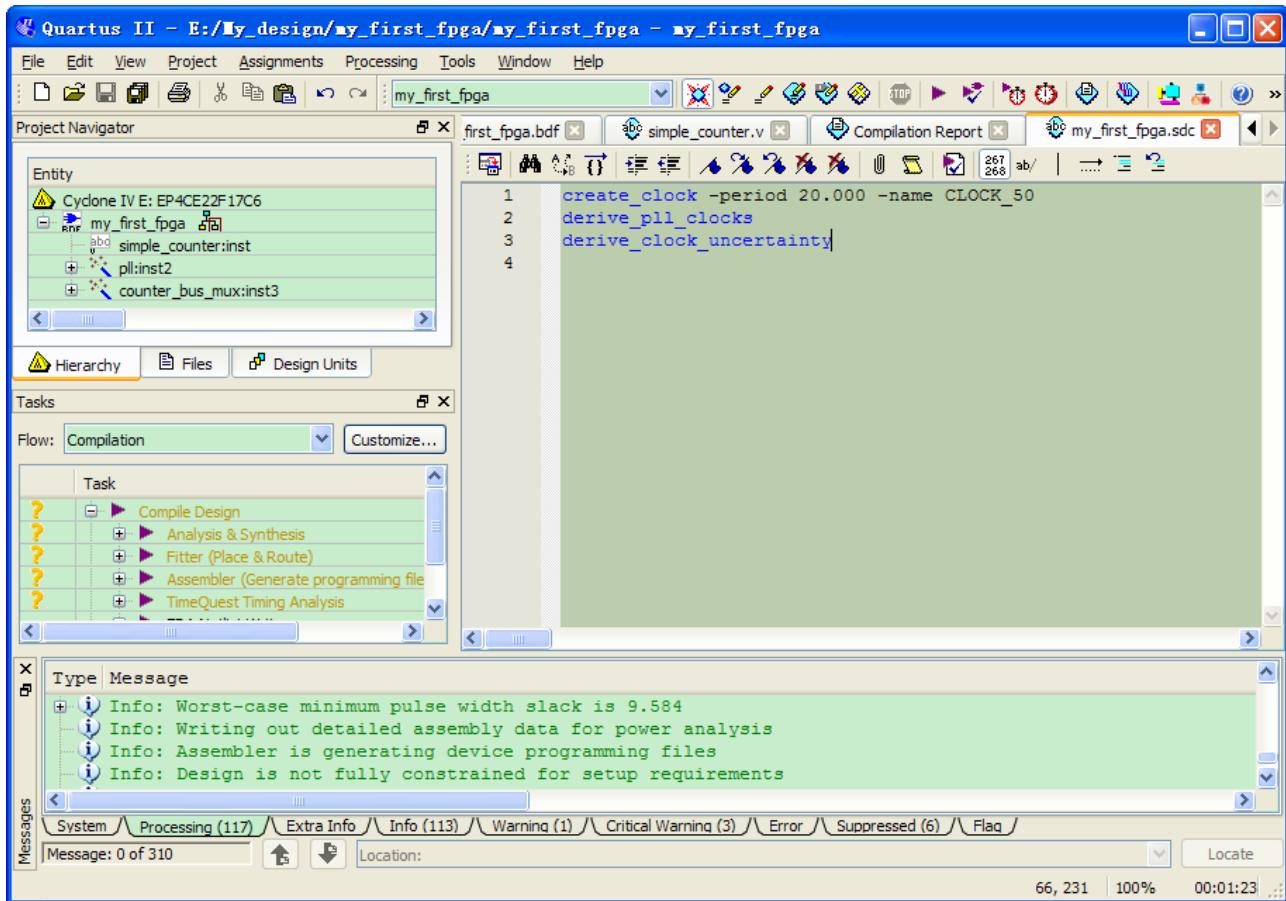

Figure 6-43 Default SDC
4. Save this file as **my\_first\_fpga.sdc** (see **Figure 6-43**)